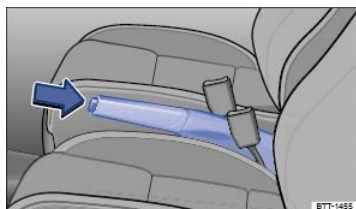

Fig. 145 Between the front seats: Parking brake.
- Pull the lever up slightly and press the release button ⇒ Fig. 145 (arrow).